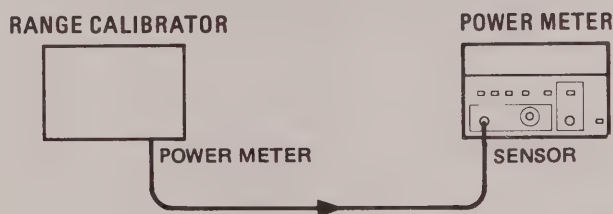

Figure 4-3. Calibration Factor Test Setup
- Connect the equipment as shown in Figure 4-3.